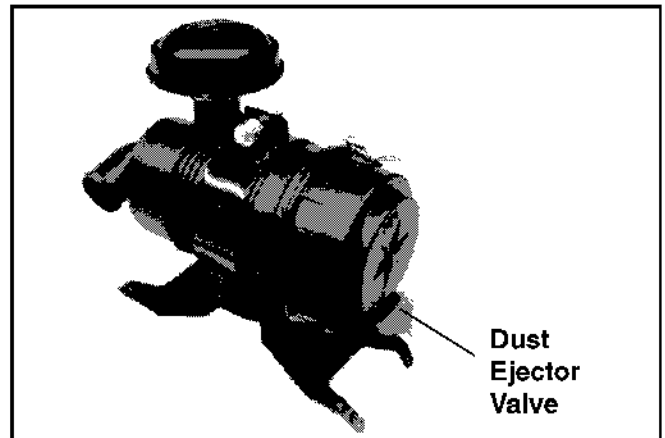

Figure 15. Heavy-Duty Air Cleaner Assembly.
7. Reinstall the end cap so the dust ejector valve is down and secure with the two retaining clips. See Figure 15.